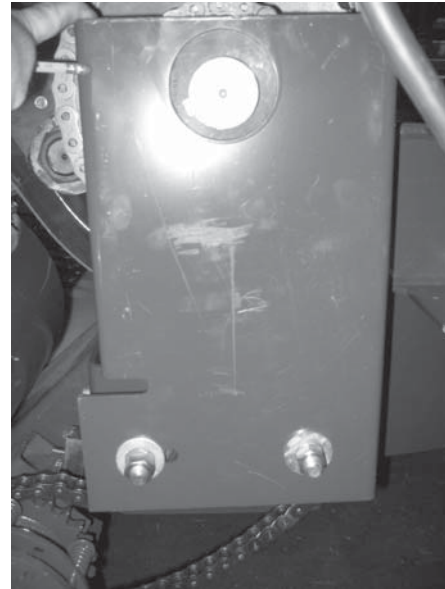
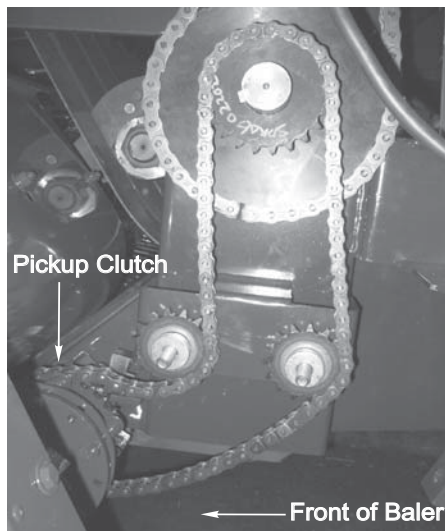

Figure 8 - Pickup Chain Guard
Figure 7 - Pickup Drive Chain
4. Connect pickup drive chain on left side of baler as shown in Figure 7. Make sure to replace pickup chain guard when finished as shown in Figure 8.